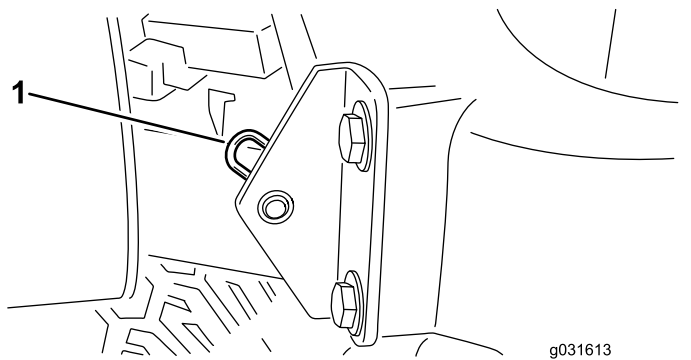

Figure 76
2. Remove the hairpin cotter securing the hood pivot to the mounting brackets (Figure 76).